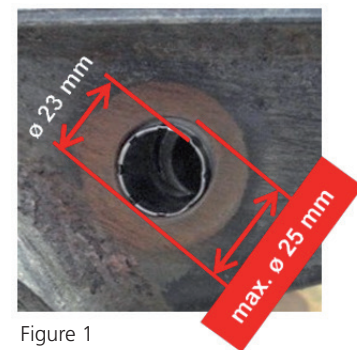

Figure 1
- a. they must be no greater than 25 mm at their widest point (refer to Figure 1)